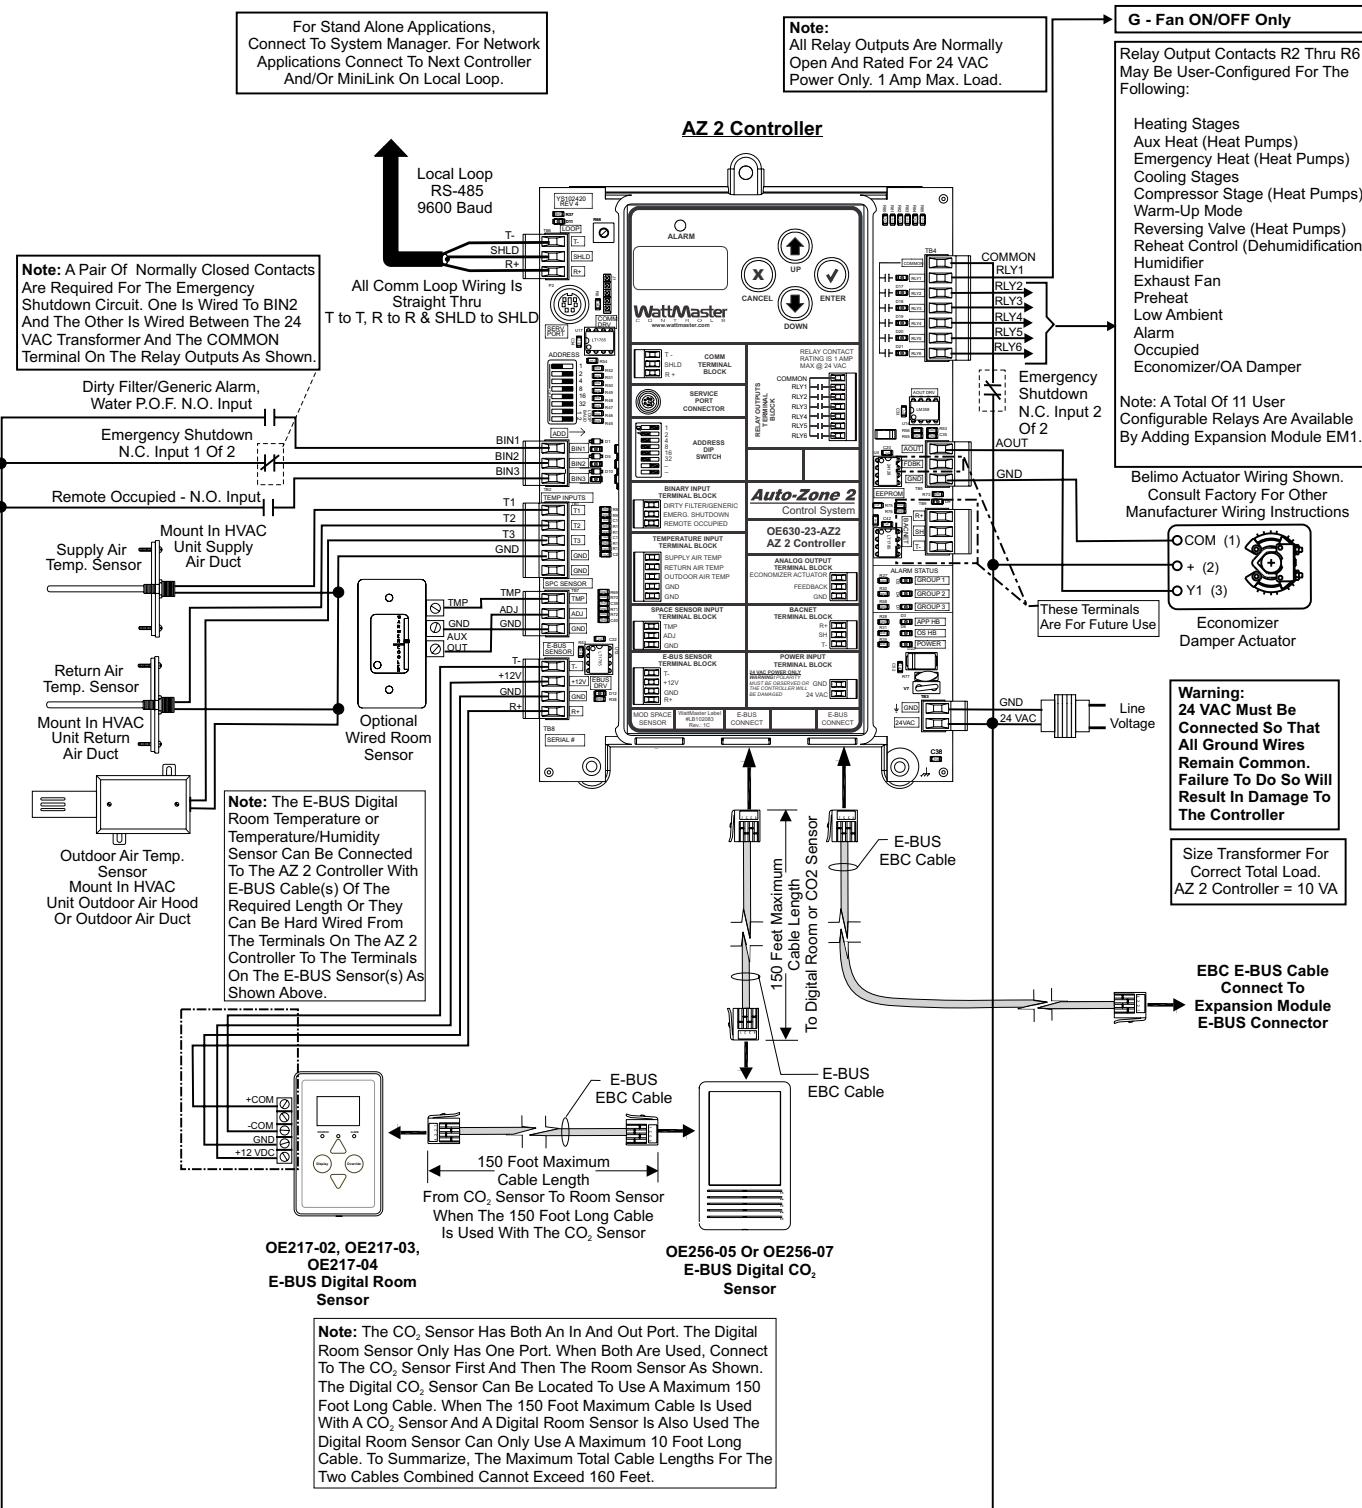
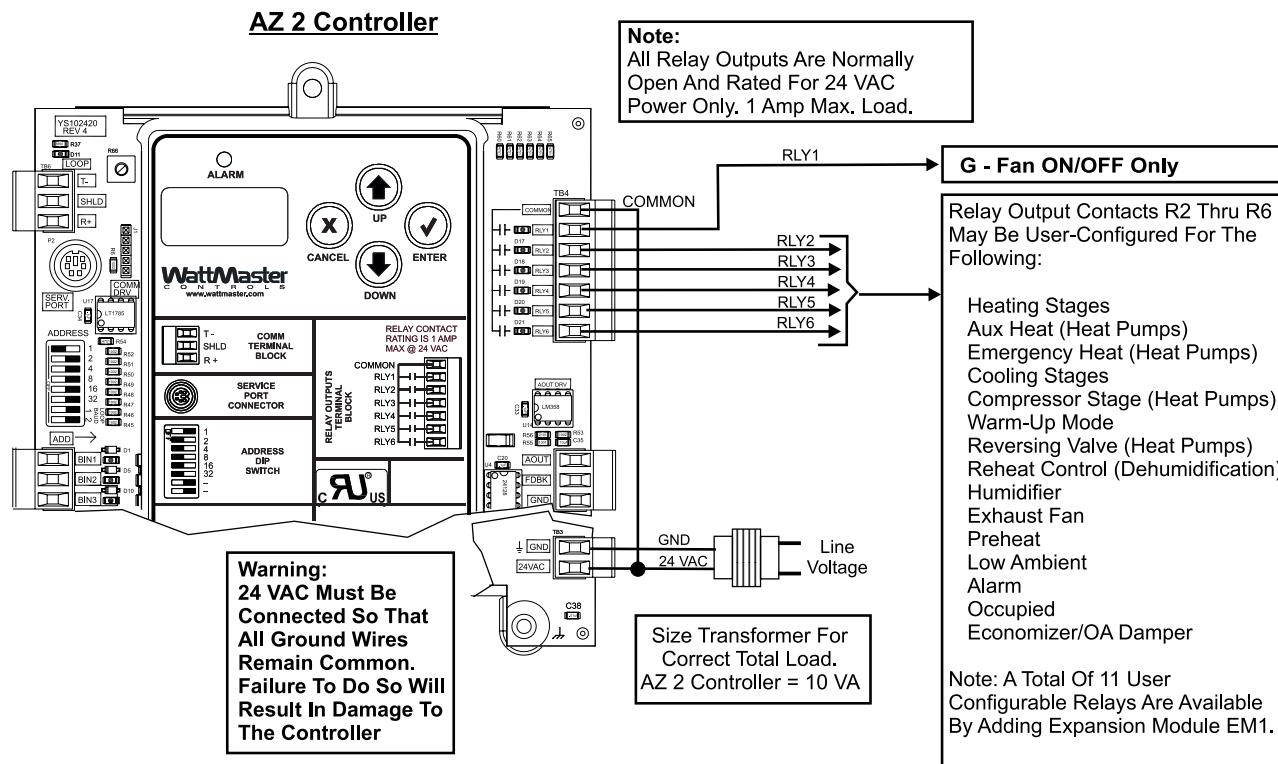

Figure 7: – AZ 2 Controller Wiring
Figure 14: – Relay Output Wiring
These relays are configurable by the user. For all the available configuration options, see **Figure 7**.
By using all (5) of the available relay outputs on the AZ 2 Controller and the (6) relay outputs on the AZ 2 Expansion Module 1, you have the ability to configure up to a combined total of (11) relay outputs for Heating Stages, Cooling Stages, and options listed in **Figure 7** and **Figure 14**.